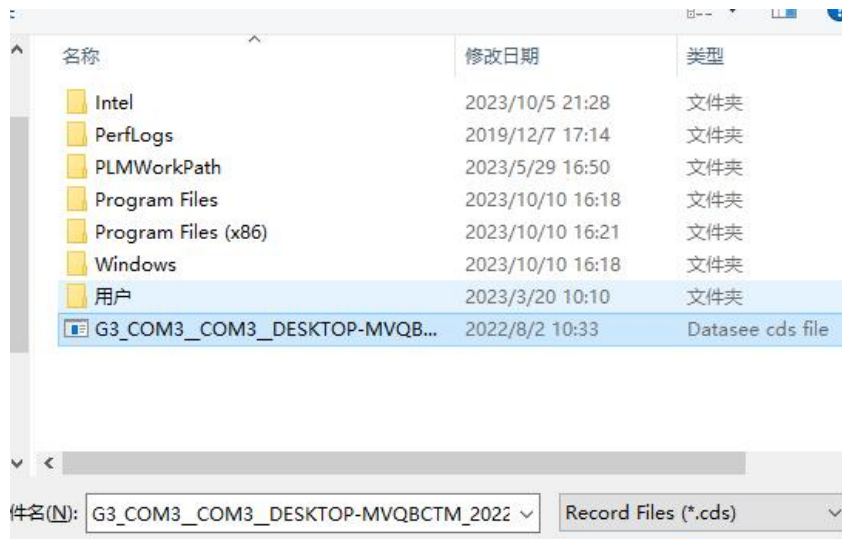

Figure 1-3 "Open" window
1. Open: used to open the data file, as shown in Figure 1-3.